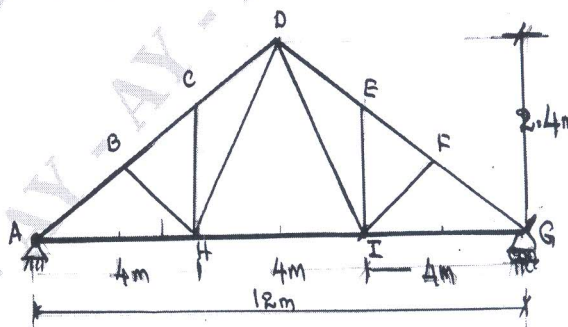

Fig Q4
- 4 Design a roof truss in figure shown below Fig Q4 for the magnitude and nature of forces given below: